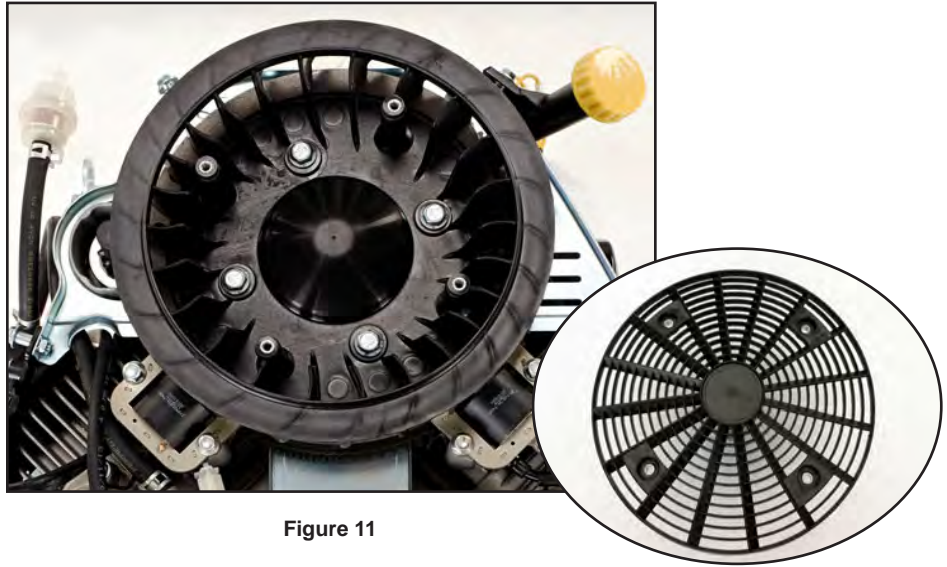

Figure 11
1. Remove the blower shroud (Figure 11) (if not previously removed), see “Engine Shroud,” chapter 7, page 7-7.